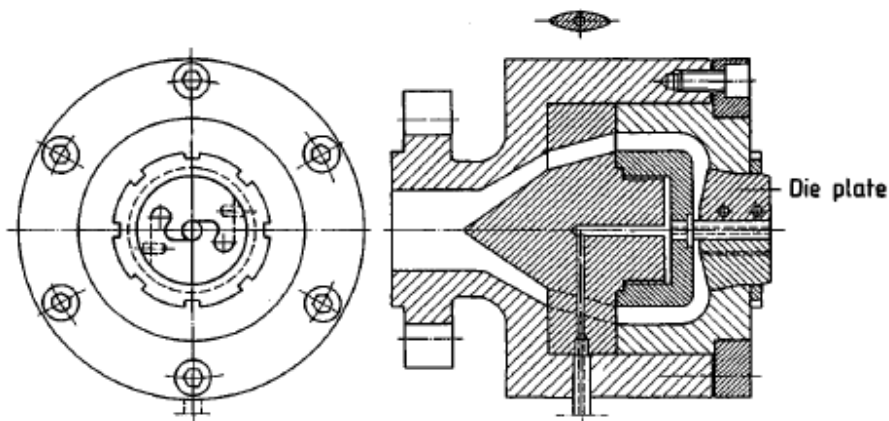

Figure 1 - Profile extrusion die - Plate die
- [b] Figure 1 displays technical drawings of a profile extrusion die. It consists of multiple assemblies and this type of extrusion die is called plate die.